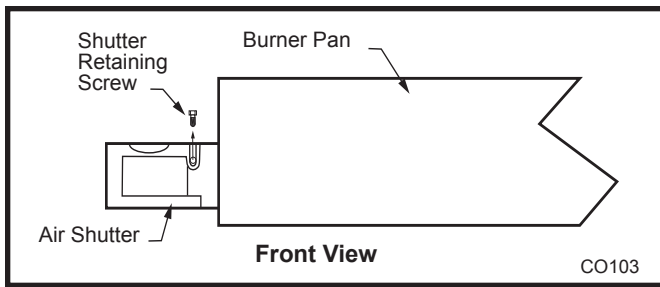

Fig. 63 Remove air shutter from burner pan.
3. Remove air shutter from burner pan by removing shutter retaining screw then air shutter. (Fig. 63)